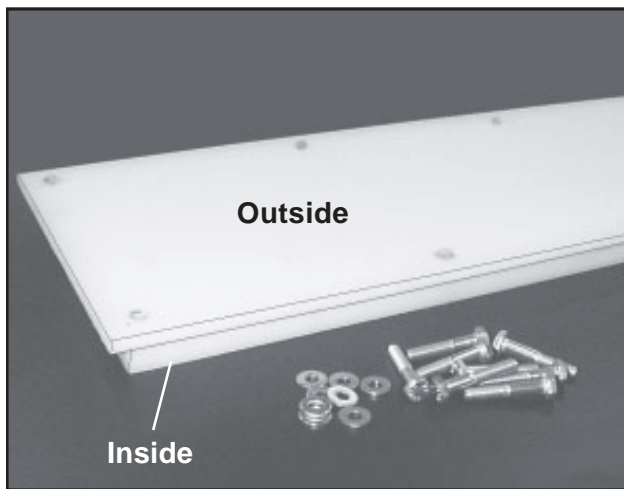

Figure 53. Polyethylene Panel & Mounting Hardware
3. With a flat-blade screwdriver, remove the eight screws on the polyethylene panel (Figure 53) and remove the panel.
4. Replace the polyethylene panel and loosely insert the eight screws (Figure 53).